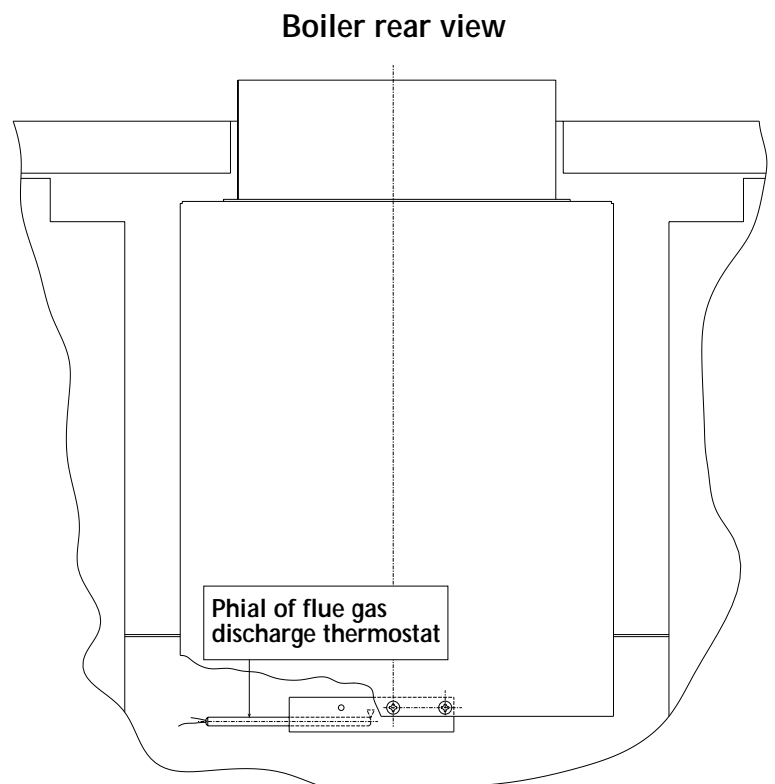

Fig. 4
- If the FLUE GAS DISCHARGE THERMOSTAT needs to be replaced, use original manufacturer’s parts only and make sure the electric connections and positioning of the bulb (see fig. 4) are correct; NEVER UNDER ANY CIRCUMSTANCES LEAVE THE FLUE GAS DISCHARGE THERMOSTAT DISCONNECTED FROM THE ELECTRIC CIRCUIT.